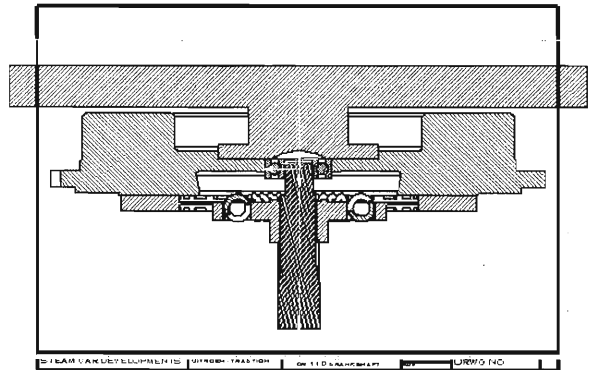

Figure 2. 11D Flywheel on 11D Crankshaft
- 11D flywheel to 11D engine (figure 2)